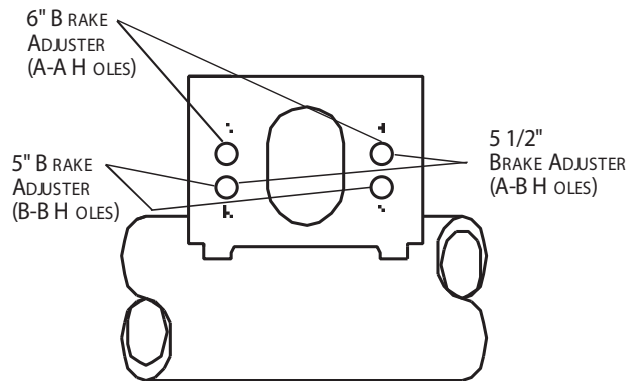

Figure 8
6. If air brake chambers are replaced, the correct mounting holes must be used to correspond to brake adjuster length. (see figure 8)